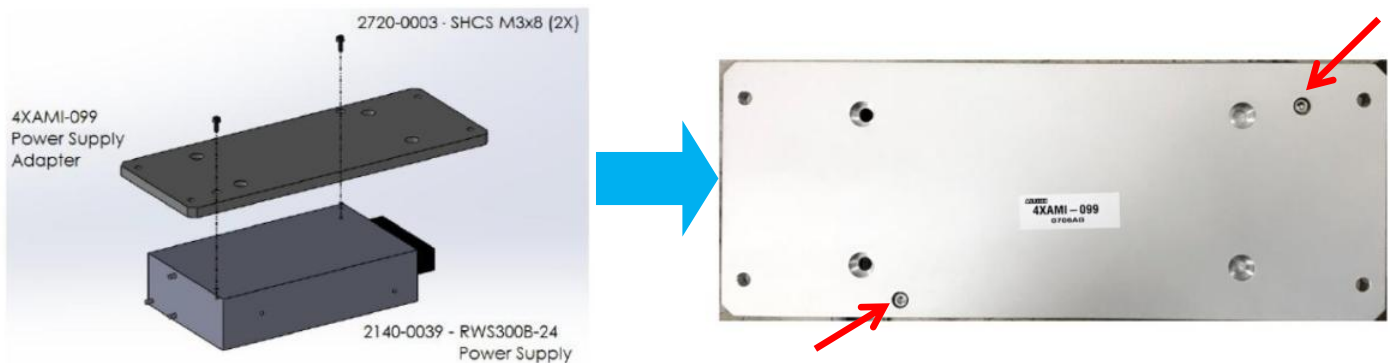

Figure 21 Trigger Board Adapter Assembly
5. Flip the Power Supply Adapter. While attach New Trigger Board Supply to Adapter, tighten below fastening kit as below Figure 21